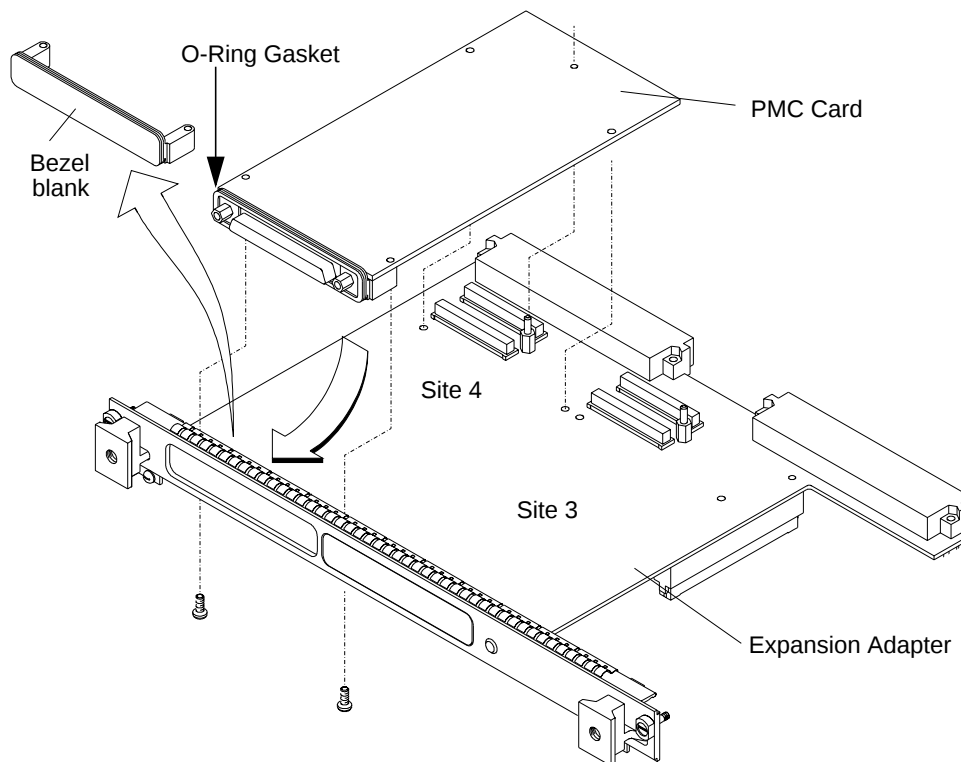

Figure 2-7 **Installing a PMC Card onto the Expansion Adapter**
- 5 On the PMC expansion adapter, remove the bezel blank(s) from the sites where you will be installing the PMC card(s). See Figure 2-7.
keying pin. See Figure 2-7.